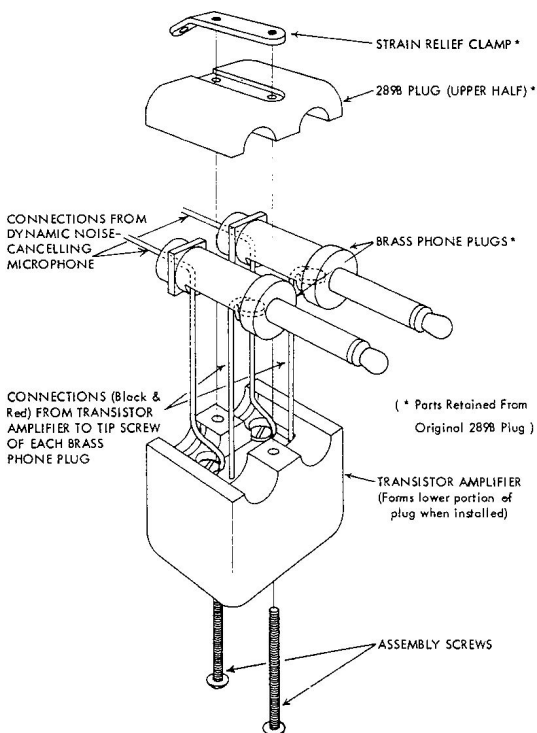

Figure 3: Exploded drawing of transistor amplifier and plug (after installation).
TO INSTALL THE TRANSISTOR AMPLIFIER IN THE 289B PLUG (See Figures 3 and 4)
- 3: Disconnect the transmitter lead from each phone plug by completely unscrewing the terminal screws nearest the tip ends of each. Do not remove the sleeve screws (not shown in Figure 3) within each plug.